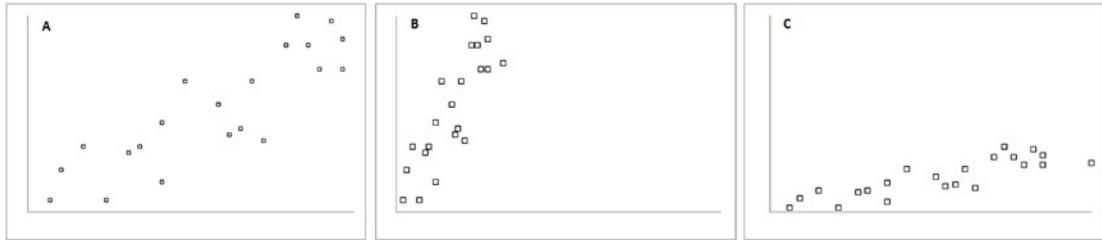

Figure 3-7. Changing the scale affects the perception of groups
In Figure 3-7, we can see how changes to the size of dots (A), the scale height of the x-axis (B), and the scaled height of the y-axis (C) can affect perception of groups.